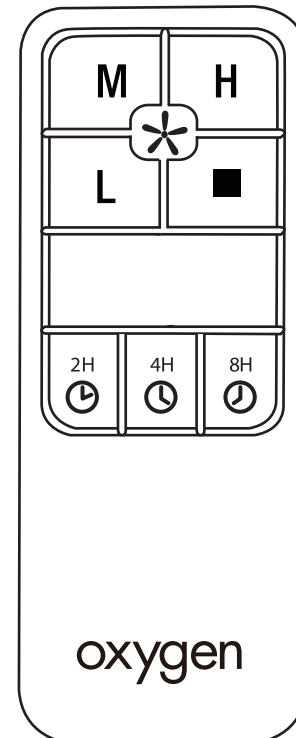

Fig. 4
A. H, M and L buttons: (Fig. 4)